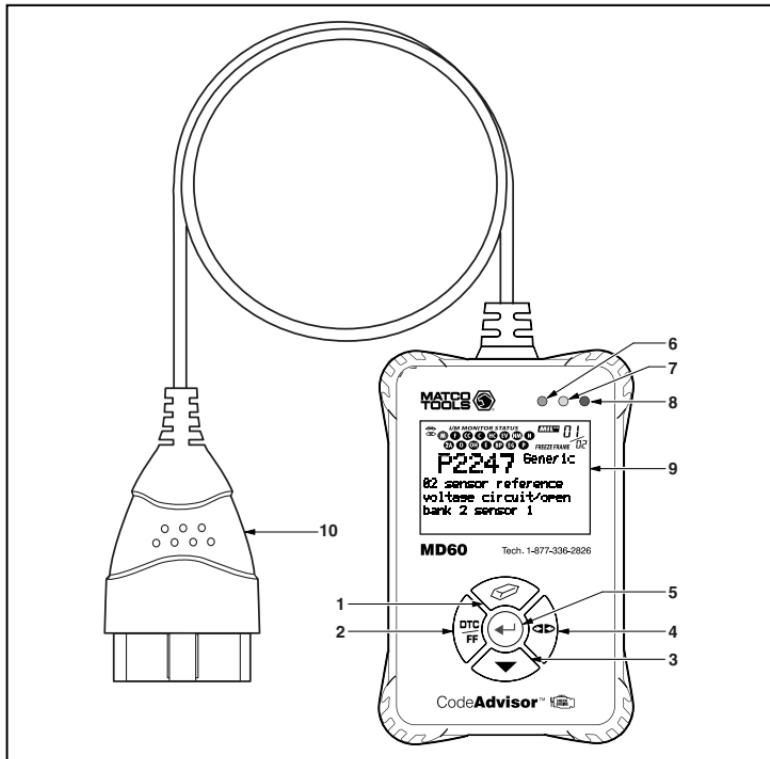

Figure 1. Controls and Indicators
See Figure 1 for the locations of items 1 through 10, below.